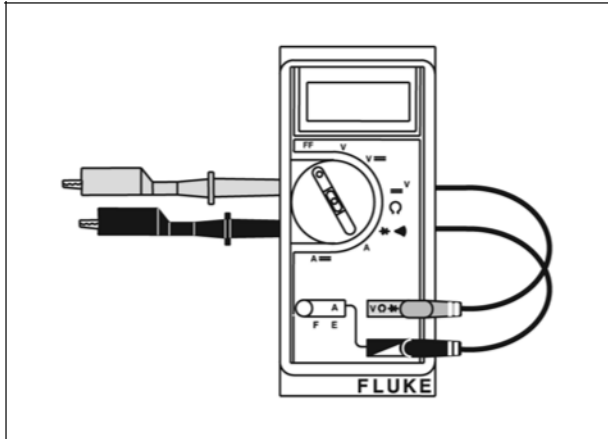

Figure 2
1. The Digital Multimeter #19390 is required to test the ignition components (Figure 2).